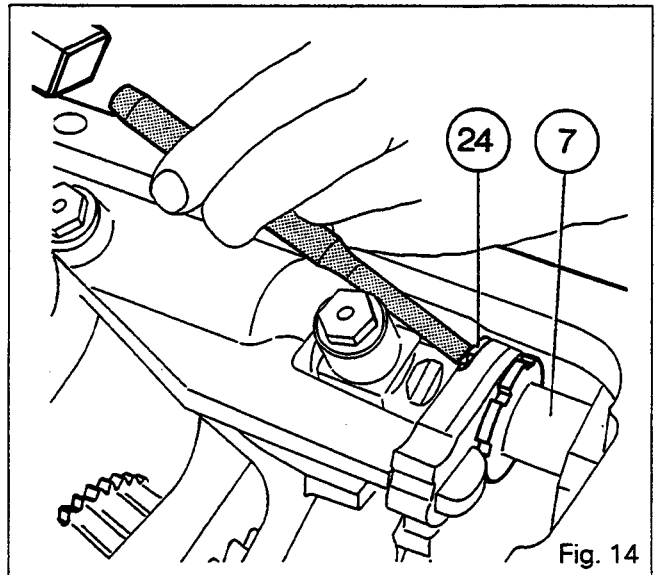
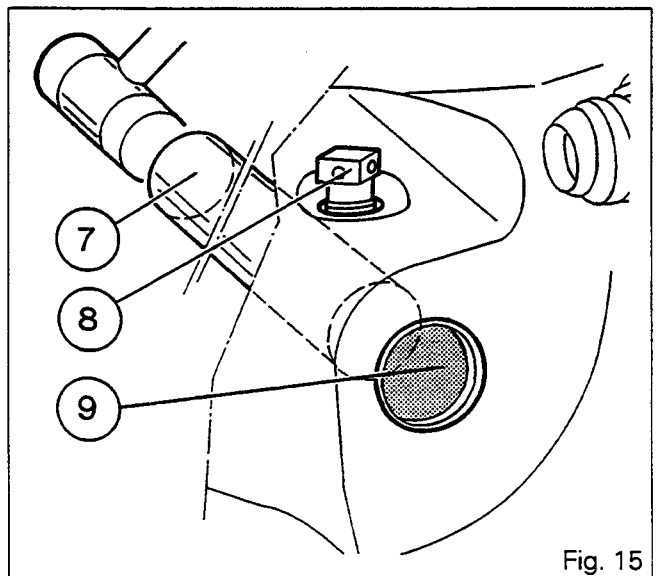

Fig. 14
Fig. 15
55. Free the cone (24) on the selector rail (7) using a bronze drift (Fig. 14).
56. Remove the setscrew (8).
57. Drive out the recess plug (9) in the forward direction by tapping the end of the selector rail (7) (Fig. 15).